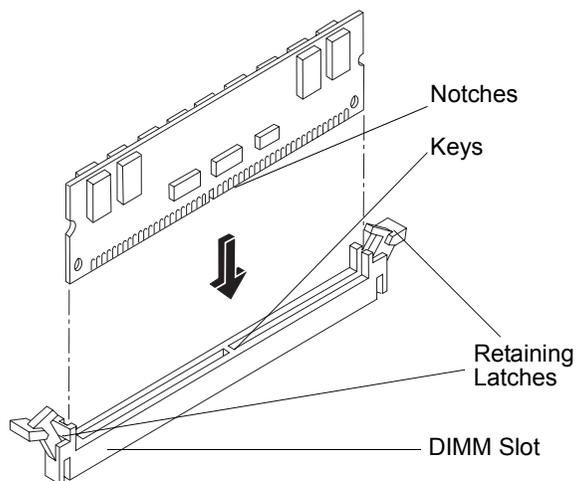

Figure 3-13. DIMM to Slot Alignment
7. Spread the two retaining latches on the slot and align the notches on the DIMM with the keys on the slot. See Figure 3-13.
8. Holding the DIMM at 90 degrees to the system board, press the DIMM fully into the slot until the retaining latches close. See Figure 3-13.